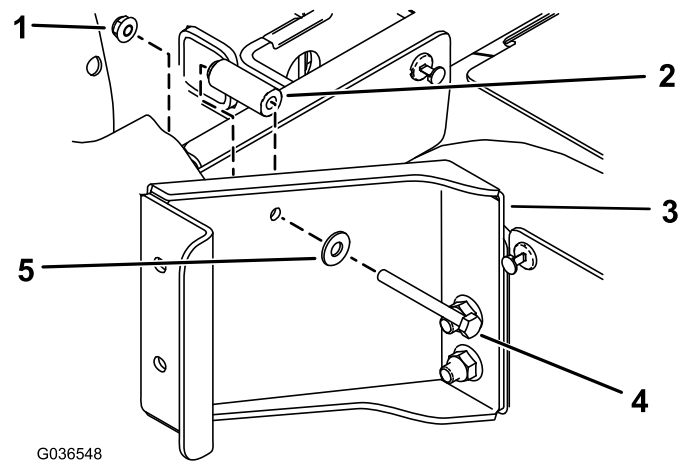

Figure 2
- C. Secure the bracket behind the rear seat base using 1 hex-head bolt ($1/4 \times 2-1/2$ inches), 1 flat washer ($5/16$ inch), 1 spacer ($9/32 \times 5/8$ inch), and 1 flange nut ($1/4$ inch) as shown in Figure 2.